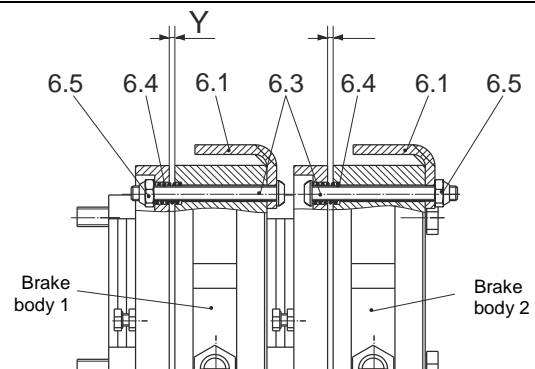

Fig. 7 (Sizes 4 to 300)
Hand Release Installation (Figs. 7 and 7a) Manufacturer-side
On the Sizes 4 to 300, the installation procedure is different for brake bodies 1 and 2 (see Fig. 7). If the brake is installed in the wrong order, it could fail.
6. Tighten the hexagon nuts (6.5) evenly, until the specified adjustment dimension "Y" (Fig. 7 and Table 3) is reached.
Single Hand Release Installation (Figs. 7 and 8) Manufacturer-side
The installation procedure is different for brake bodies 1 and 2 (see Figs. 7 and 8). If the brake is installed in the wrong order, it could fail.
7. Tighten the hexagon nuts (6.5) evenly, until the specified adjustment dimension "Y" (Fig. 7 and Table 3) is reached.